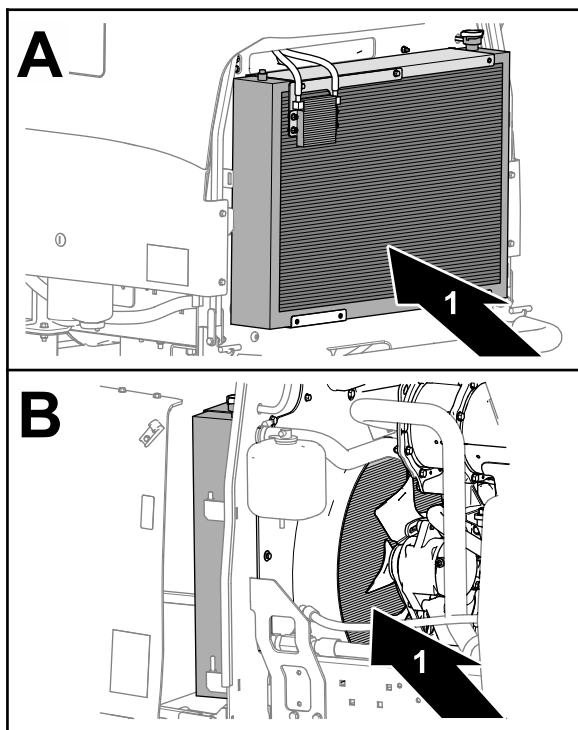

Figure 68
7. Thoroughly clean both sides of the radiator and oil cooler with compressed air (Figure 68).